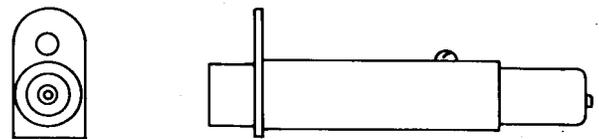

Fig. 20—570A Jack
2.20 570A: This coaxial-type jack (Fig. 20) has coaxially arranged inner and outer contacts. This single jack is designed to be used with the 440A and similar-type plugs. This jack is not designed for connection to a coaxial cable. The 570A jack is used as a terminating jack. This jack has a 75-ohm resistor connected internally from the center contact to the shell. This jack is used with the Toll Systems Mastergroup Multiplex.